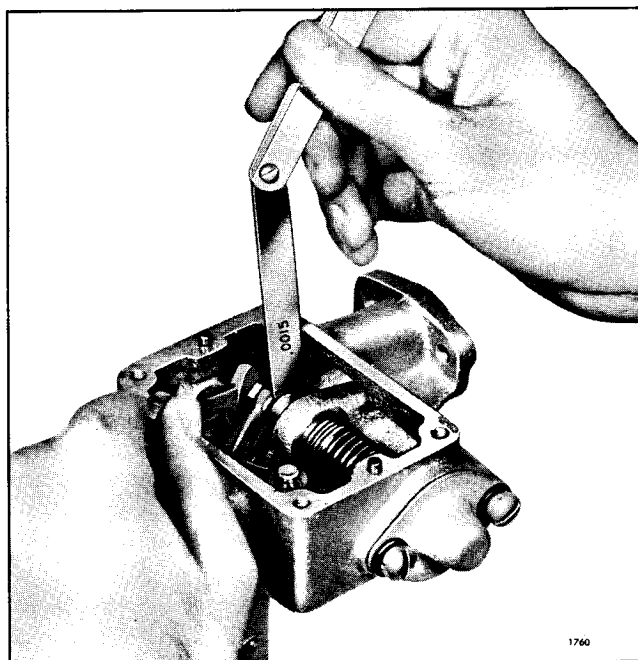

Fig. 1 - Adjusting Governor Gap
4. Loosen the lock nut and adjust the gap adjusting screw until the gap is .0015", see Fig. 1.